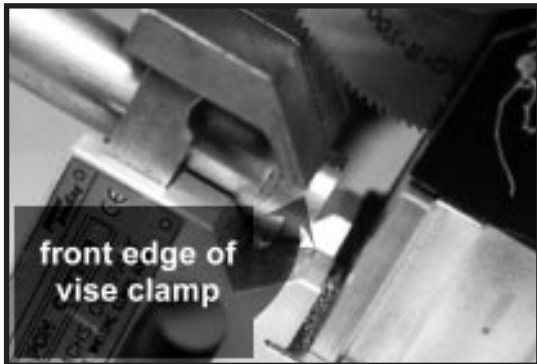

Figure 5
3. Place tube in axial cutting position in vise with tube extending just beyond the front edge of the vise clamp. Proceed with axial cut (Figure 5).